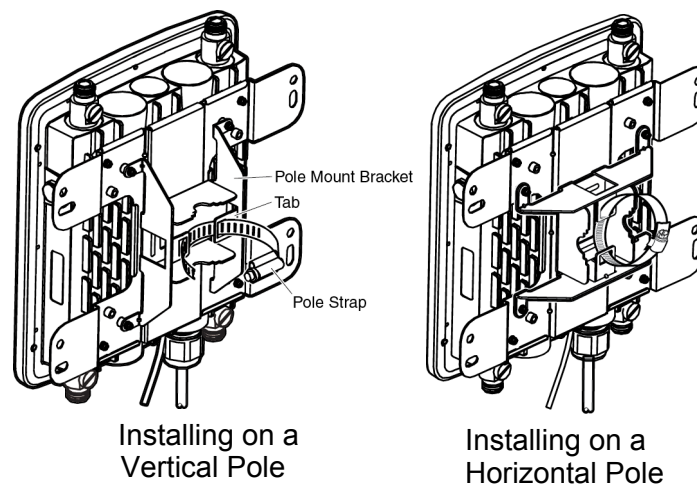

Figure 21. Attaching the O-Ring Clamp to the Pole-Mount Bracket
5. Attach the O-ring clamp to the pole-mount bracket. Refer to Figure 21.